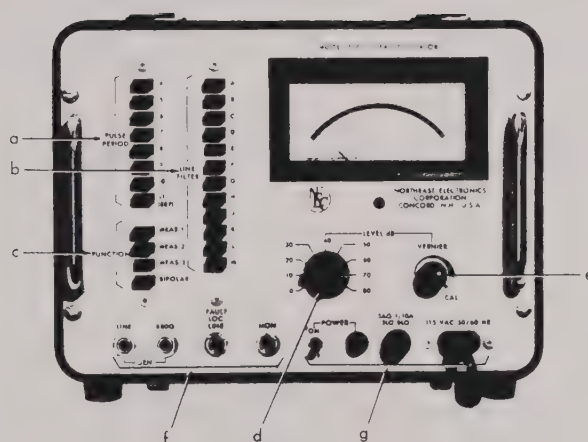

Figure 3-1. Model 7001 Front Panel Controls, Indicators and Connectors
3.1 FRONT PANEL CONTROLS (See figure 3-1.